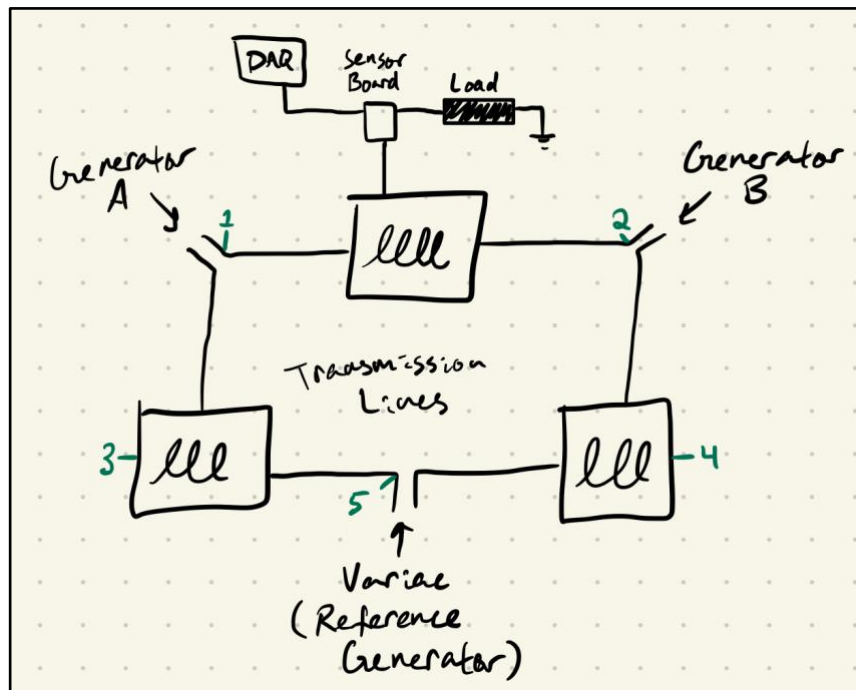

Figure 1: Basic schematic of the grid
- Turn on the oscilloscope and wire the leads to points 1 and 3, according to Figure 1.